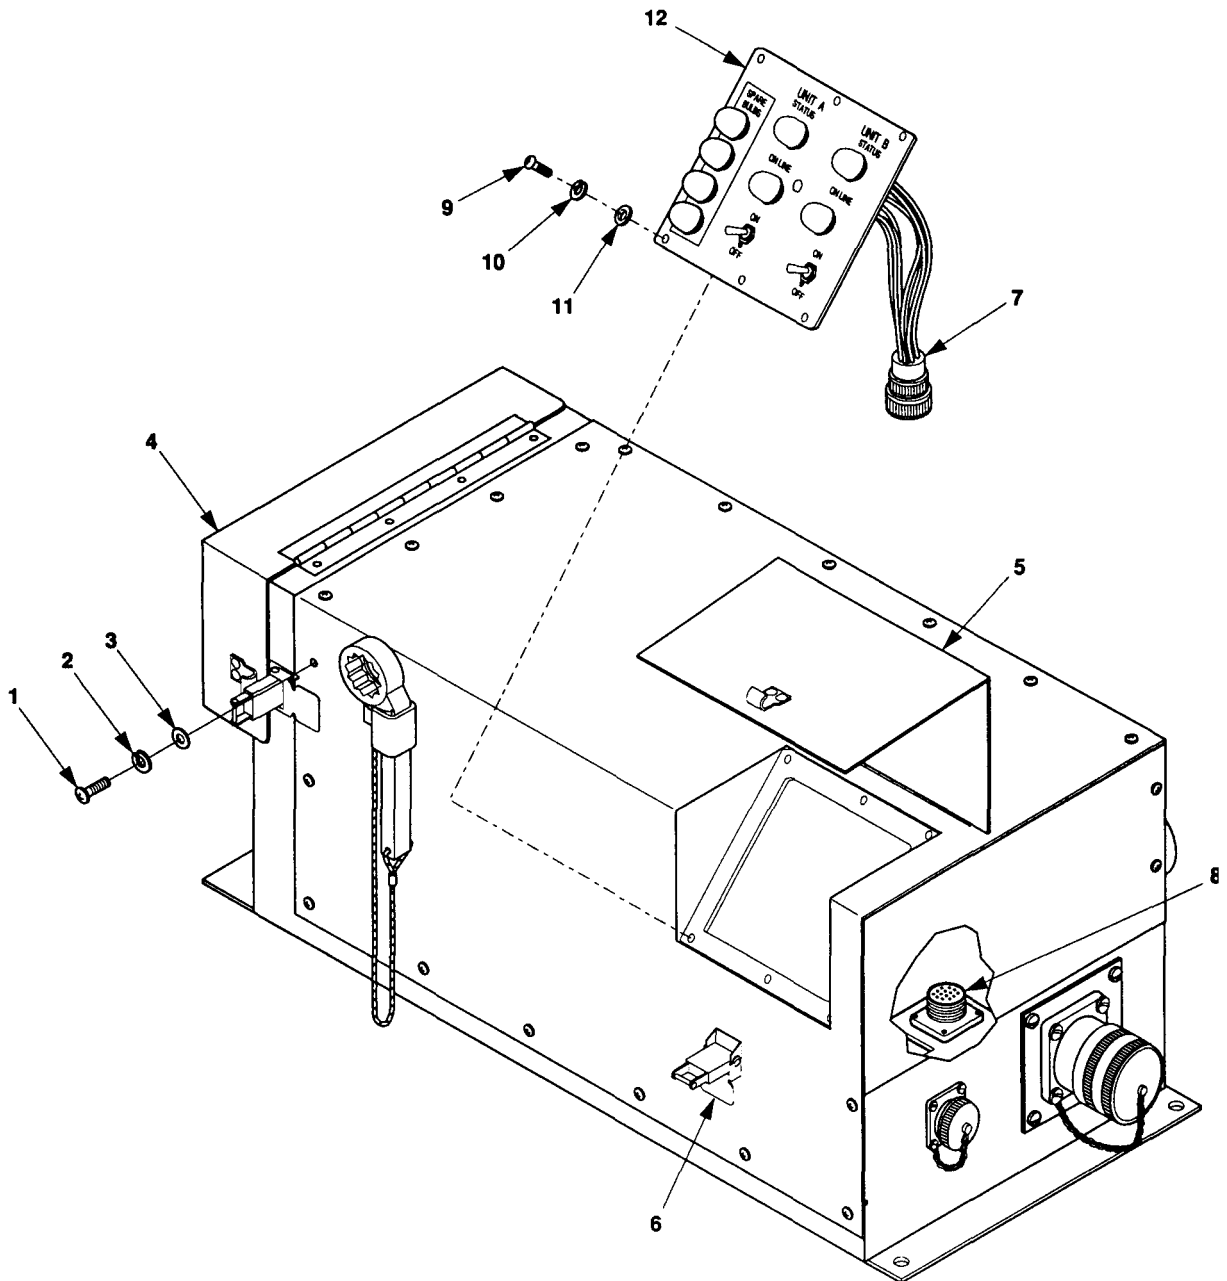

Figure 5-13. Control Panel, Wiring Harnesses, and Wiring Leads Maintenance.
1. Remove 21 machine screws (1, figure 5-13), lock washers (2), and flat washers (3) that secure the switch box cover (4) to the switch box assembly. Discard lock washers.
1. Remove 21 machine screws (1, figure 5-13), flat washers (3), and lock washers (2) that secure the switch box cover (4) to the switch box assembly. Discard lock washers.
1. Remove 21 machine screws (1, figure 5-13), flat washers (3), and lock washers (2) that secure the switch box cover (4) to the switch box assembly.